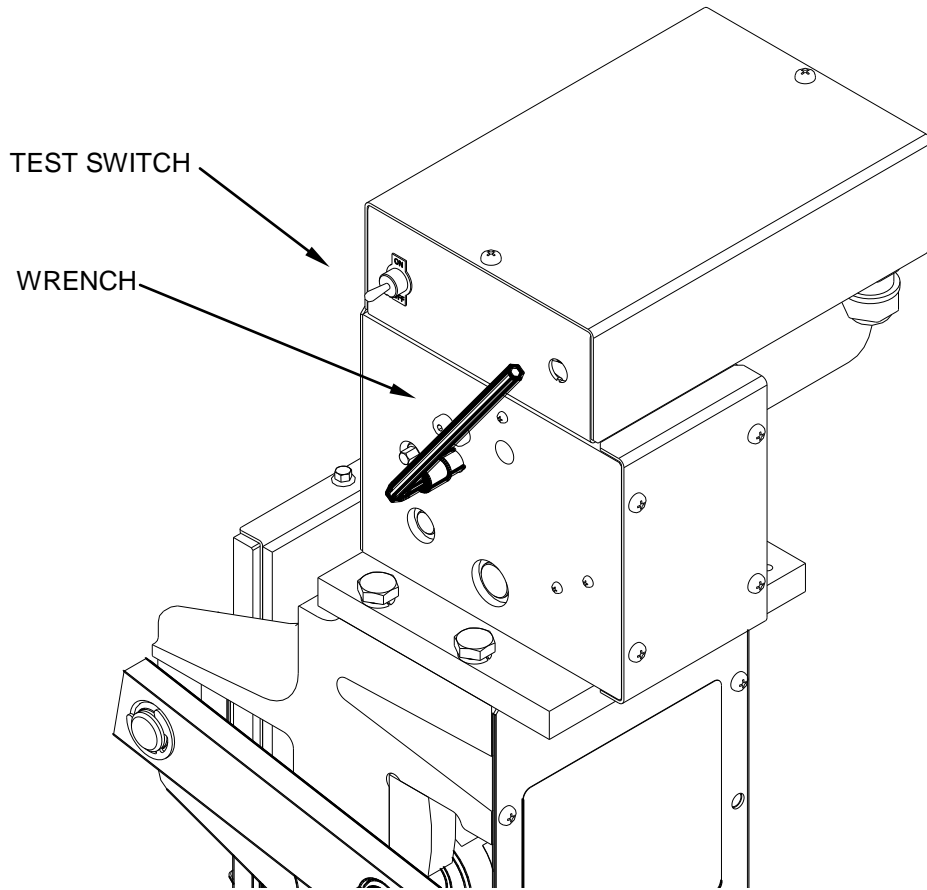
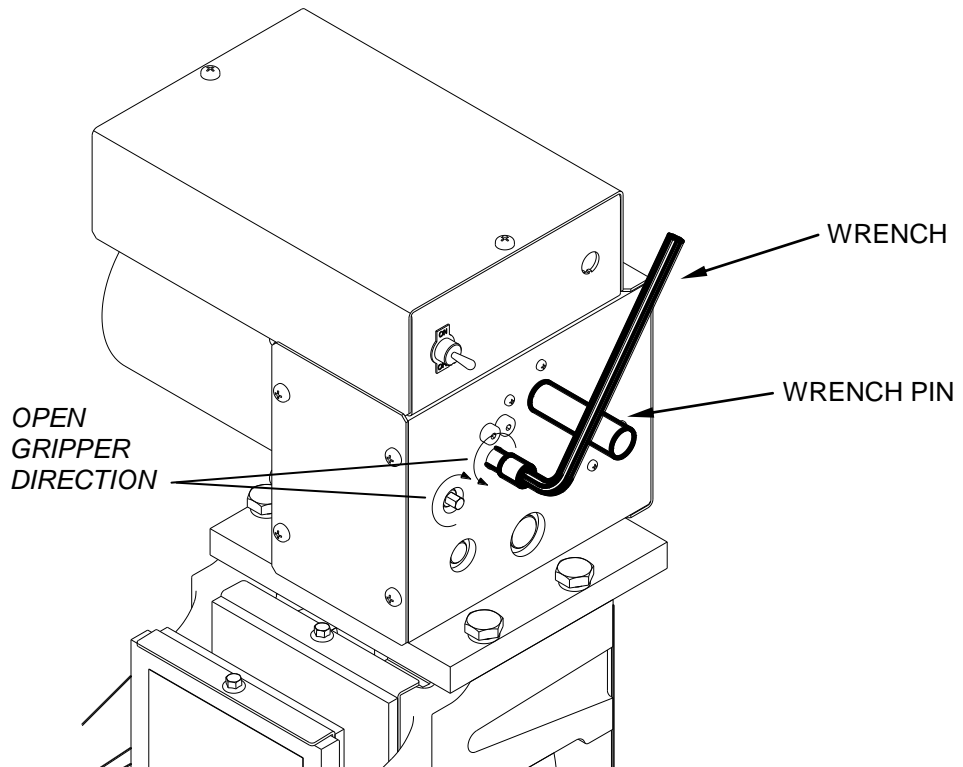

Figure 7 (RH unit shown; LH opposite)
Figure 8 (RH unit shown; LH opposite)
2. Assuming machine brake is functioning properly (preventing car movement), place the supplied 6 mm socket wrench on the upper or lower hex shaft end on the side of the gearbox. See Figure 7. Turn the wrench in the direction shown in Figure 8 for the respective hex shaft until the brake is loosened on the ropes and the car is free to move. (Note: A right-hand gripper is illustrated in Figures 7 & 8. For a left-hand Rope Gripper™, turn the wrench in the opposite direction from the illustration.)
3. Place the wrench pin into the side of the Rope Gripper. Slowly let the wrench run backwards until the wrench handle is resting on the wrench pin. See Figure 8.